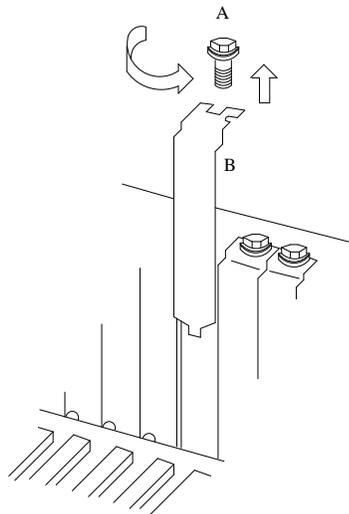

Figure C-3. Removing a Circuit Card Mounting Bracket Screw
2. Remove the screw holding the mounting bracket of the card in place. See Figure C-3.
5. Secure the circuit card faceplate into position by replacing the Phillips head retaining screw as shown in Figure C-3.